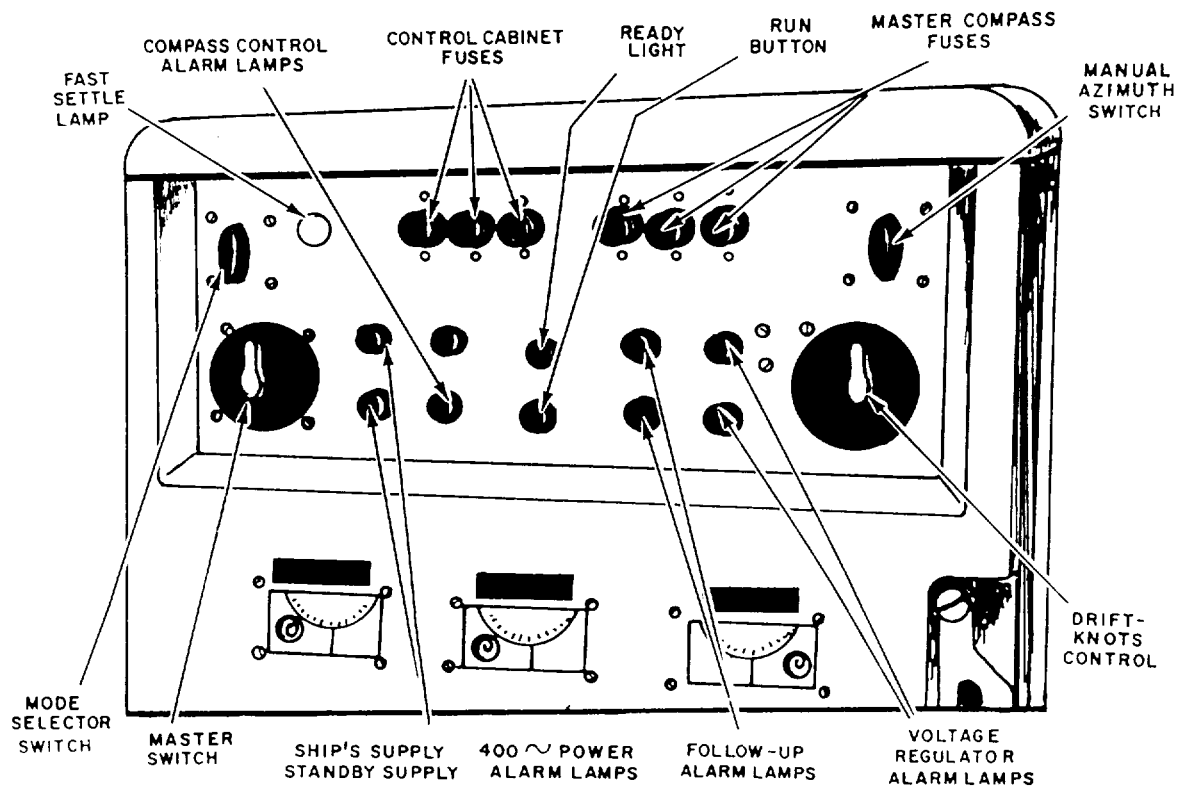
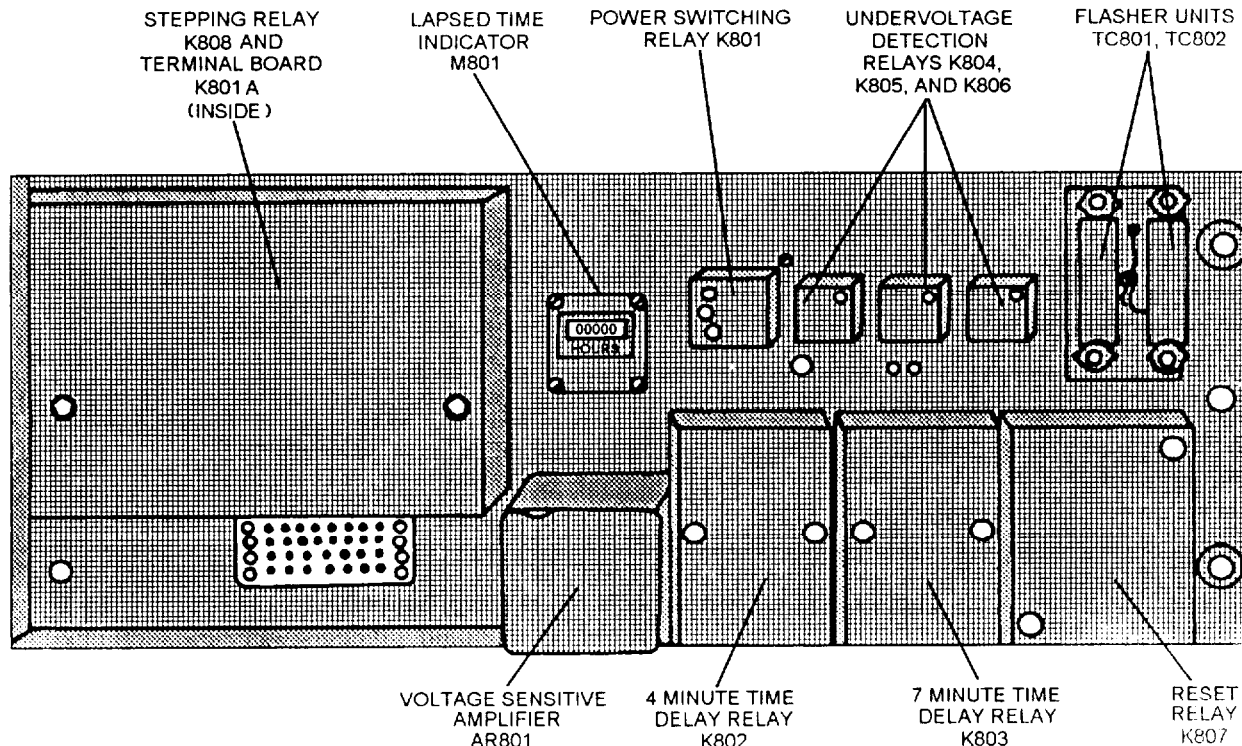

Figure 4-22.—Control panel.
Figure 4-24.—System control assembly.
**CONTROL PANEL.**— The control panel (fig. 4-22) contains all the switches, alarm lamps, and indicator fuses required for operating the system. Only the controls required for normal operation of the system are accessible when the control cabinet is closed. These controls are on a recessed panel to avoid injury to
**SYSTEM CONTROL ASSEMBLY.**— The system control assembly (fig. 4-24) is mounted at the top of the rear section of the control cabinet and includes switches, a time delay and circuits, and a stepping relay for cycling the events automatically. These components are required for starting and operating the compass system. They operate in conjunction with the switches, indicators, and relays on the control panel (fig. 4-22) and elsewhere in the system in performing starting and control functions.